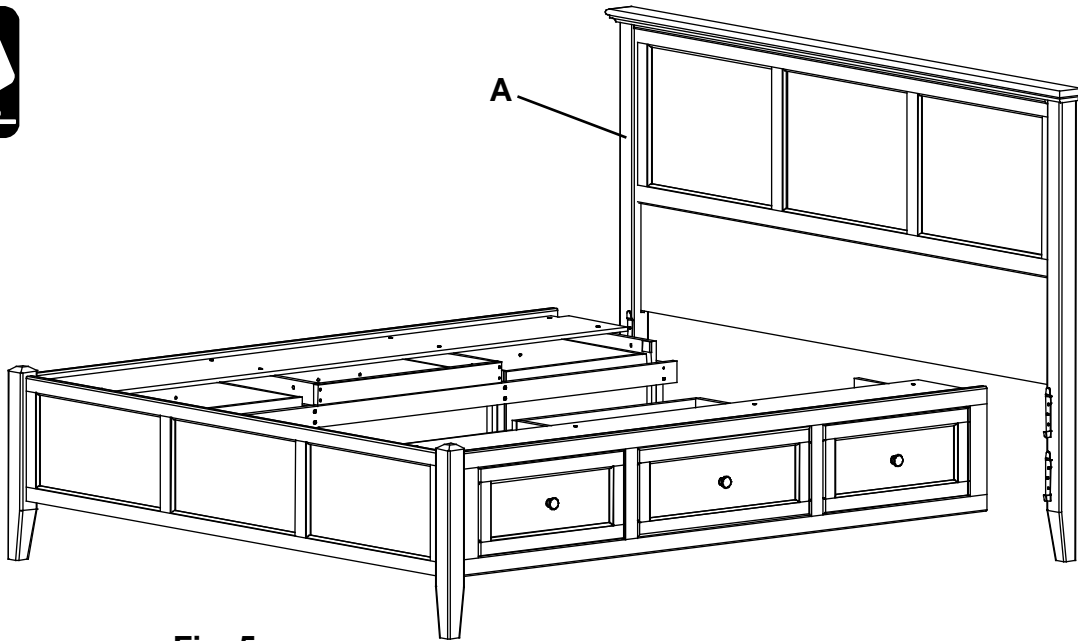

Fig. 5
5. Align the Brackets on both sides and slide the Pedestal/Footboard assembly down on to the Headboard (A). See Figure 5.